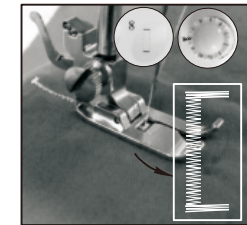

Fig.19
- (4) Choose the stitch pattern #8, then turn on switch and sew 5-6 stitches in low speed, then turn off switch (Fig.19).